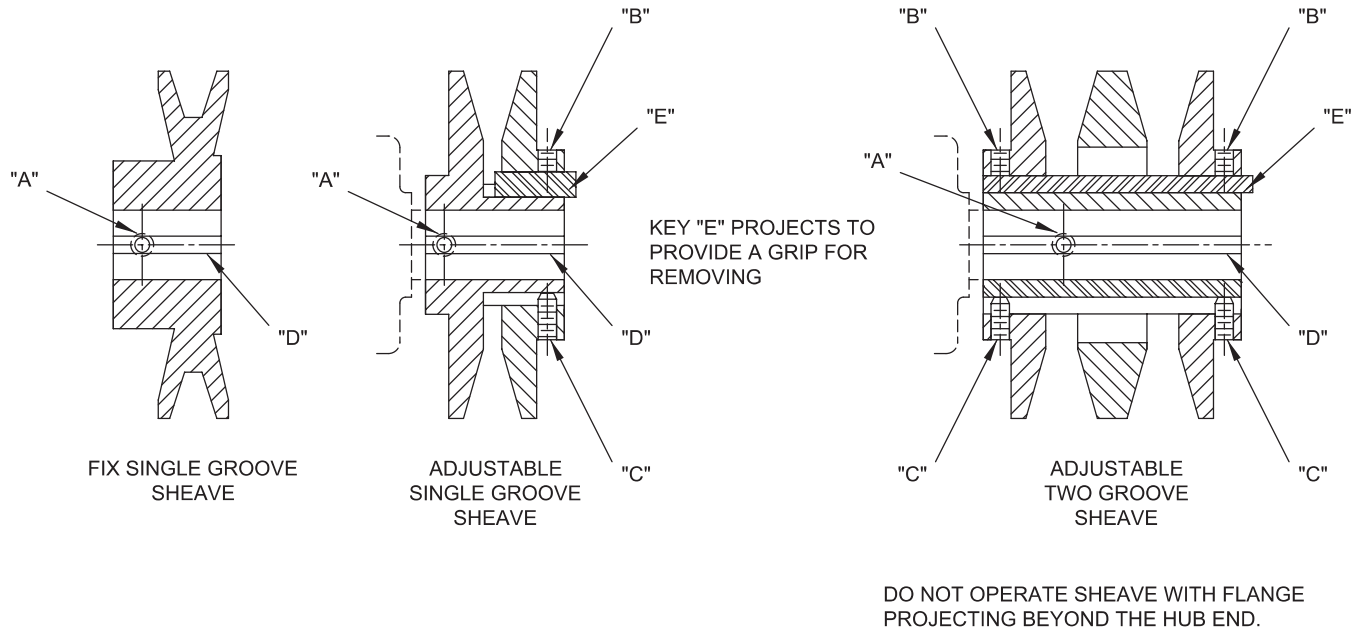

FIGURE 11 - MOUNTING SHEAVES
3. All straight bore sheaves should be mounted on the motor or driver shaft with setscrew (A) toward the motor (see *Figure 11 on page 25*). The sheave should be close to the motor as possible with setscrew (A) in full contact with the key.
(Provided on motor only). See *Figure 11 on page 25*.